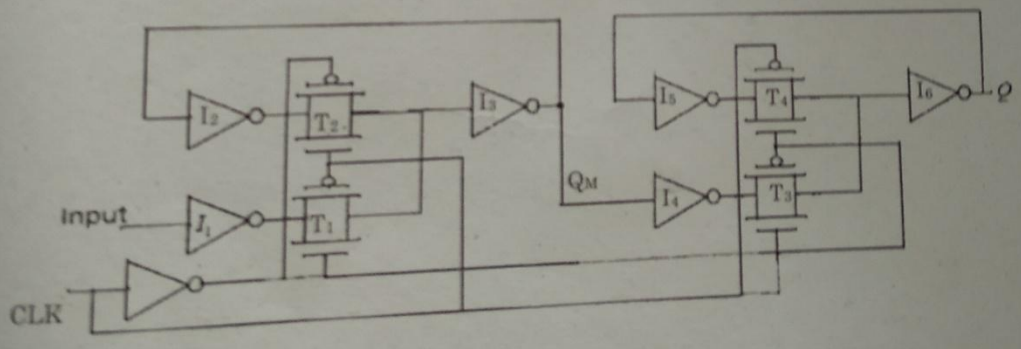

Fig. 4
13. (a) (i) Identify the type of register for the circuit shown in figure 4 and express set up time, hold time and propagation delay of register in terms of the propagation delay of inverters and transmission gates. (5)